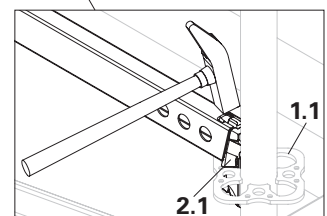

Fig. A1.02a
3. Securely fix all wedges using a hammer. (Fig. A1.02a)
- Securely fix all wedges using a hammer. (Fig. A1.02a)
5. Attach horizontal ledgers (2) to the rosette on both sides (1.1) using the ledger heads and wedges (2.1). (Fig. A1.02a)
6. Securely fix all wedges using a hammer. (Fig. A1.02a)
1. Mount further standard (5) and intermediate elements (8) – until the required length is reached, see Section “Fitting the standard elements”, from page 17 onwards. If necessary, fit intermediate elements (8) as compensation.
2. Attach horizontal ledgers (2) to the rosette on both sides (1.1) using the ledger heads and wedges (2.1). (Fig. A1.02a)